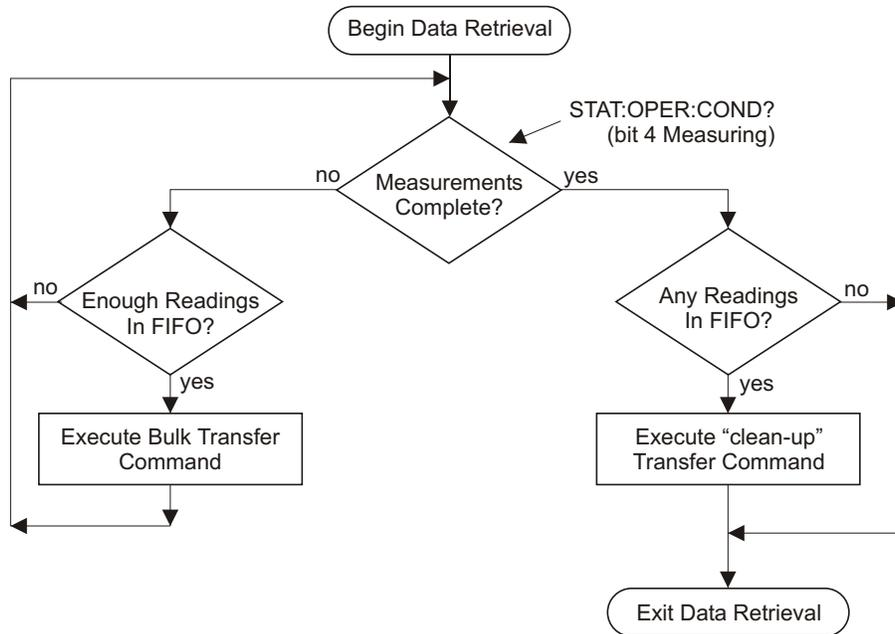

Figure 4-1: General Form of FIFO Data Retrieval
Figure 4-1 shows program flow in the FIFO data retrieval section for a single VT1413C or Agilent/HP E1313 . The conditions before entering the data retrieval section are:
- Instrument initiated (INITiate sets the Measuring bit checked in the first decision block in Figure 4-1).